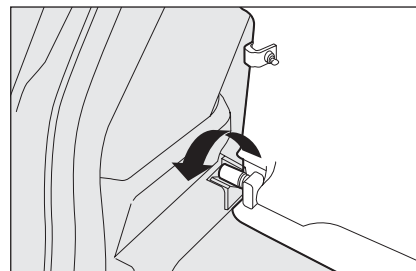

fig. 109
- ❑ Front part: release and turn the rear window shelf in its housing and release the two pins from the sides **fig. 109**.